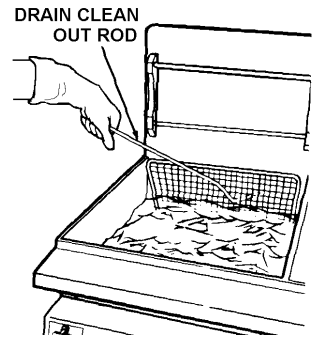

Figure 1.1: Remove screen over elements/ tubes
1. Remove screen from over tubes/element with tongs or a Drain Clean Out Rod (See Figure 1.1).